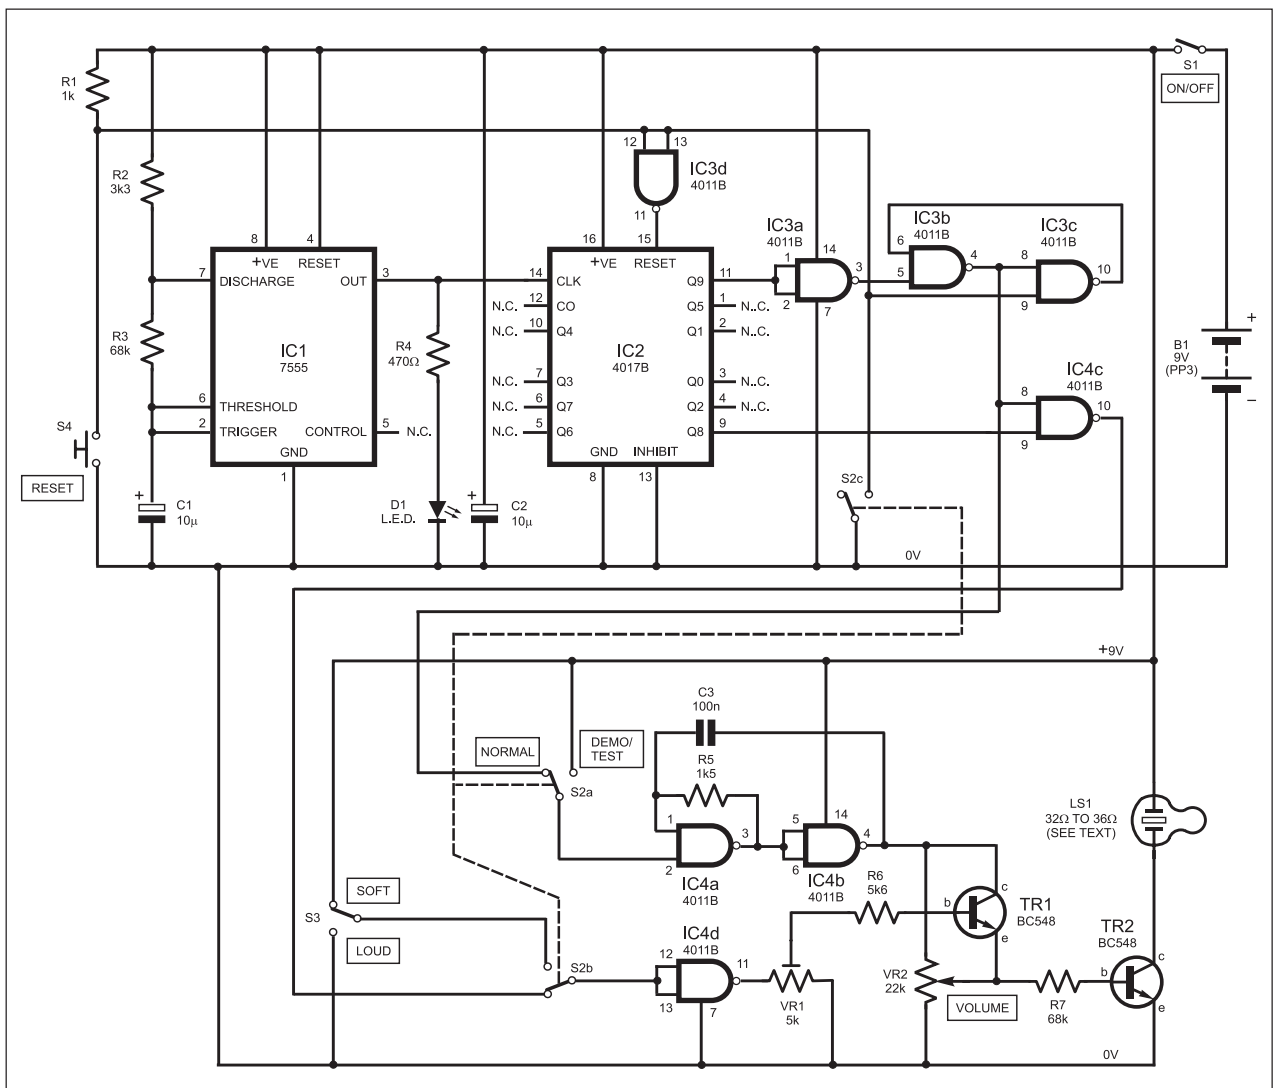

Fig.2. Circuit diagram for the wake-up call Slumber Alarm
**T**HE circuit diagram shown in Fig.2 was produced to prevent an elderly woman falling asleep on public transport and missing her destination. The problem was caused by the combined soporific effects of the warm environment she was in, the road or rail vibrations she was subjected to, and the side-effects from prescribed medication.